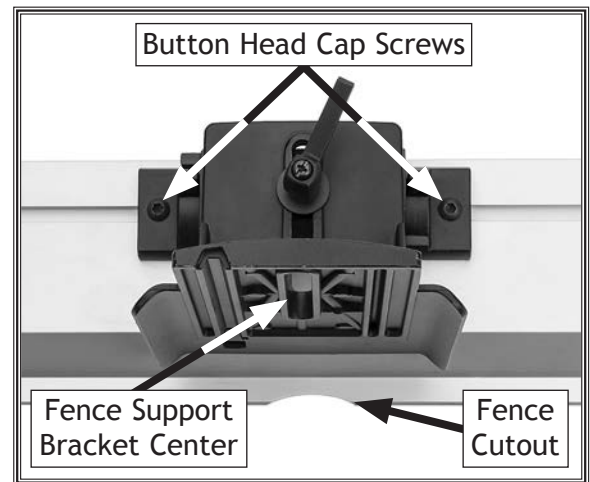

Figure 12. Fence cutout aligned with center of fence slide bracket.
4. Align fence cutout with center of fence slide bracket, and tighten (2) button head cap screws installed in **Step 2** (see **Figure 12**).